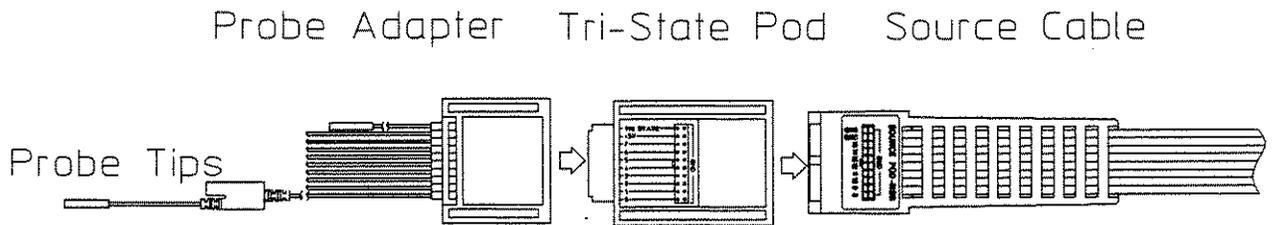

Figure 13-8. Tri-State Buffer Installation
4. A tri-state pod may be installed between the cable end and the source pod as shown in figure 13-8.